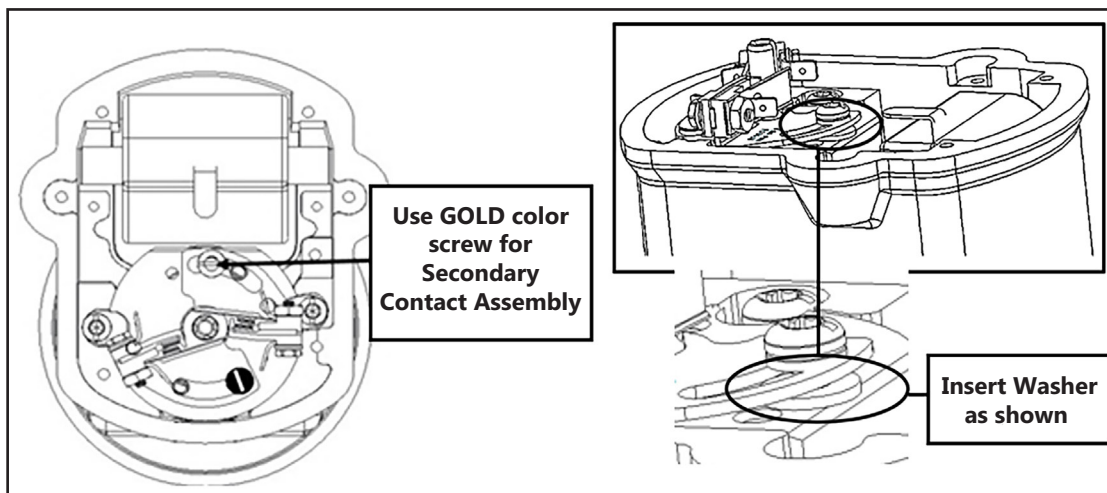

Figure 6.8 – Attach the Secondary Contact Assembly
- (1) Place the washer (16) on the bearing cap and attach the secondary contact assembly (11) using the GOLD color secondary contact mounting screw (14). Reference Figure 6.8.
- (2) Do not tighten screw until contact assemblies are adjusted in § 6.13.E.
- (3) Proceed to § 6.13.D.